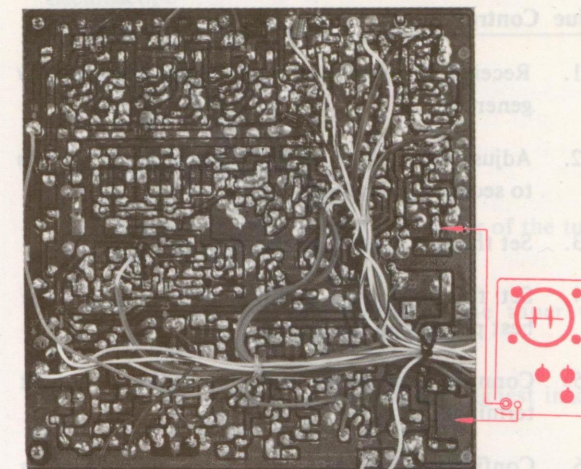

Fig. 4-6. Scope connections to adjust the burst amplifier transformer
3. Connect a scope to the secondary of burst amplifier transformer BAT. See Fig. 4-6.